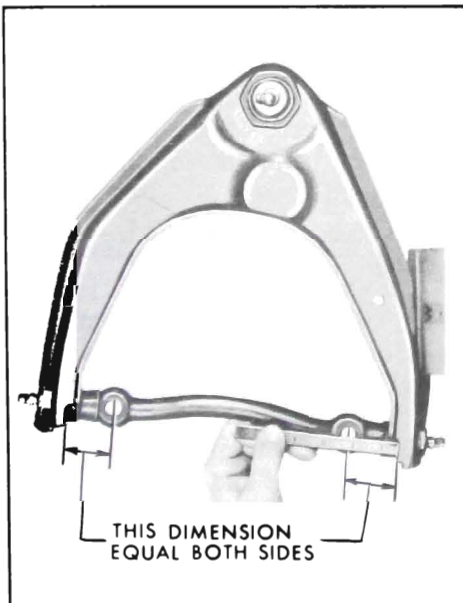

Figure 7-15—Upper Control Arm Shaft Position
6. Rotate shaft to make distance between shaft bolt holes and arm equal both sides as nearly as possible. See Figure 7-15.